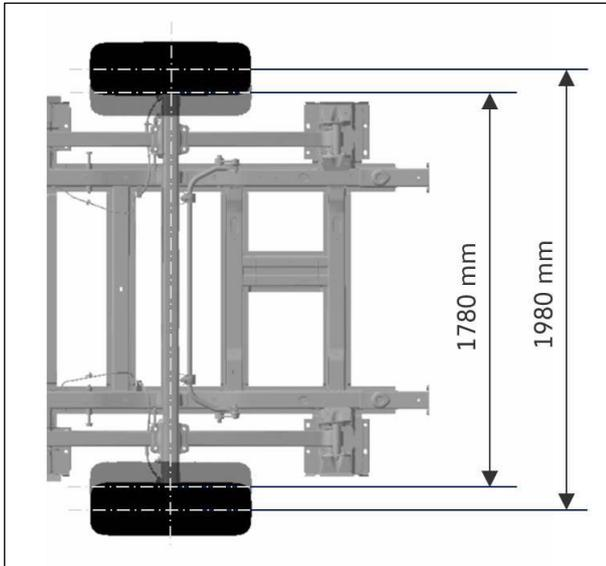

Fig. 3: Design of normal and wide-gauge rear axle
- Rear axle design: normal gauge axle (1780 mm) or wide gauge axle (1980 mm) (see Fig. 3)